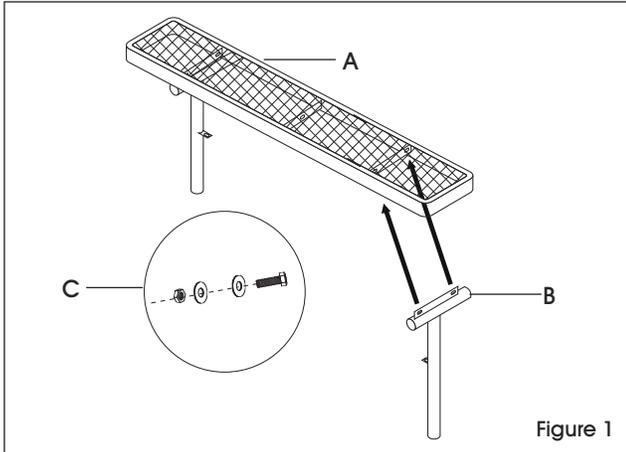

Figure 1
2. Attach the bench seat (A) to a leg (B). Make sure the leg is on the outside of the seat support fin and the brackets on the leg are facing inward. (See Figure 1)
3. Loosely attach the leg to the bench seat using one bolt, two washers and one nut in each hole (C). (See Figure 1)